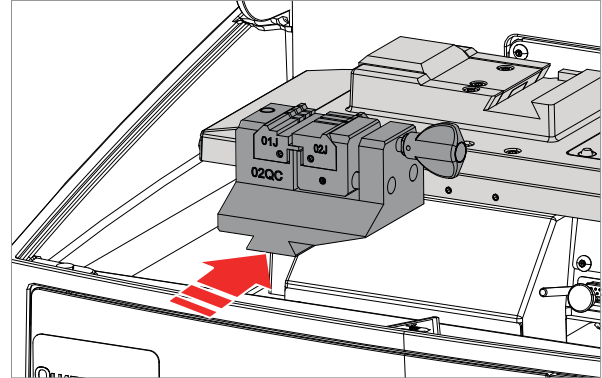

Fig. 76
- 3) Insert the clamp unit into the dovetail groove (Fig. 76).
- 4) Tighten the grub screw (N).